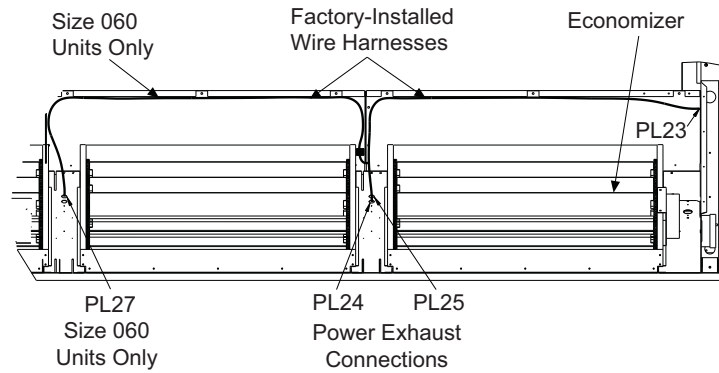

Fig. 11 — Wire Harness Plug Location for 48/50A Only
6. Connect the terminals on the end of the power harness wires to the auxiliary control panel terminal block as shown in Fig. 5-10. The other end of the 20 ft harness will be routed through the return/exhaust section of the unit to the economizer section. **NOTE: The following statement is valid for A-series only.** Remove the factory-installed power exhaust harness and plug(s) below the economizer and replace with accessory harness and power exhaust plugs. See Fig. 11 for harness plug location. Secure the harness in place so as not to interfere with the economizer or power exhaust.
7. Connect the terminals on the end of the power harness wires to the terminal block as shown in Fig. 5-10. The other end of the 20 ft harness will be routed through the return/exhaust section of the unit to the economizer. **NOTE: The following statement is valid for A-series only.** Remove the factory-installed power exhaust harness and plug(s) below the economizer and replace with accessory harness and power exhaust plugs. Refer to Fig. 11 for harness plug location. Secure the harness in place so as not to interfere with the economizer or power exhaust.